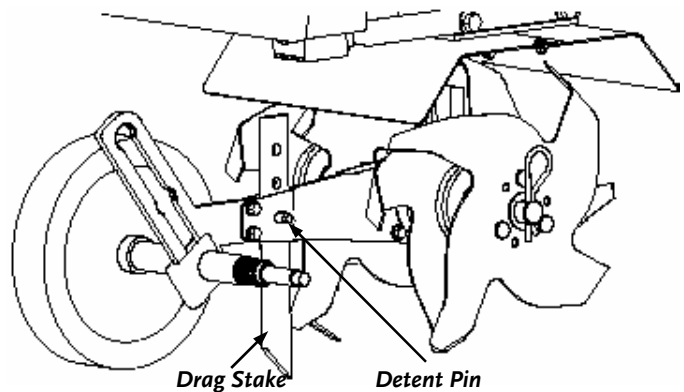

Figure 7
The Drag Stake (**Figure 7**) is used to help regulate tilling depth and control the machine from lurching forward during operation. Set the Drag Stake in its lowest position of three (3) to provide the greatest resistance to forward motion allowing for deeper tilling.
1. Pull the Detent Pin out of the Drag Stake Mounting Hole (**Figure 7**).